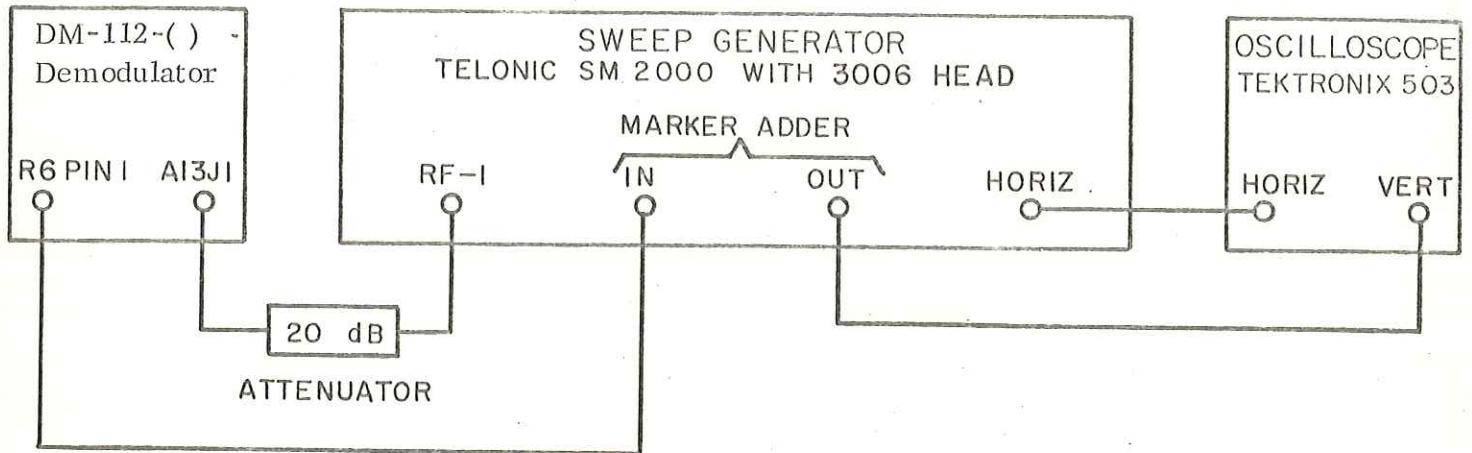

Figure 4-14. Test Setup, 21.4 MHz IF Amplifier Alignment (A13A1)
- (1) Connect the equipment as shown in Figure 4-14. Resistor R6 pin 1 refers to the front panel VIDEO GAIN potentiometer.